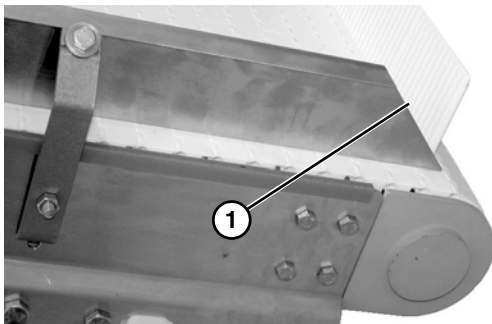

Figure 21
When installing guides, be sure that the angled end of guide is installed on the idler end of conveyor (**Figure 21, item 1**).